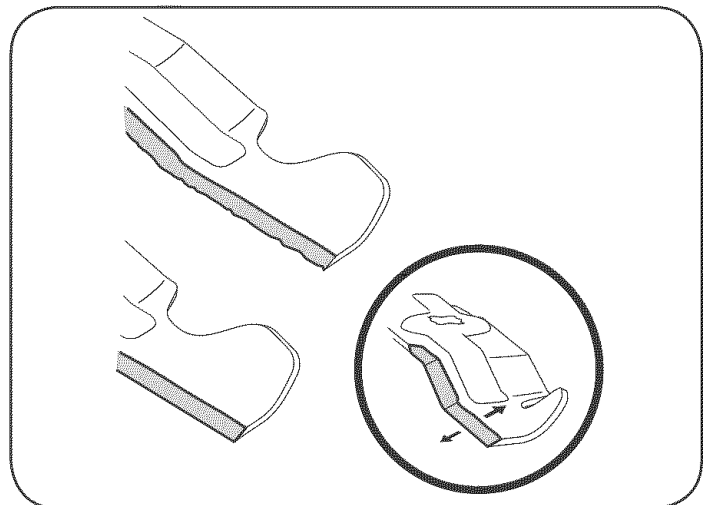

Figure 21
1. To properly sharpen the cutting blades, remove equal amounts of metal from both ends of the blades along the cutting edges, parallel to the trailing edge, at a 25° to 30° angle, Figure 21.